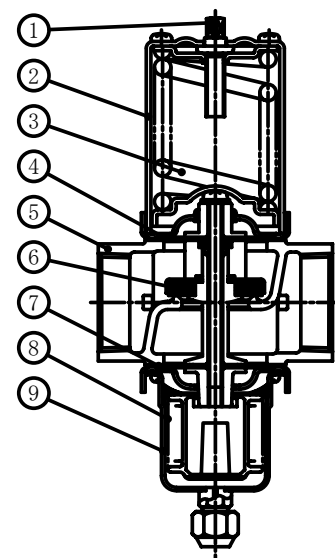

Fig.1 Sectional View AWR-3212GLW
In Fig.1, it contracts the bellows ⑧ and the valve disk ⑥ is moved upwards resisting to spring ③ and cooling water in the body ⑤ flows in direction of arrow on the body when pressure in the bellows cap ⑨ increases.